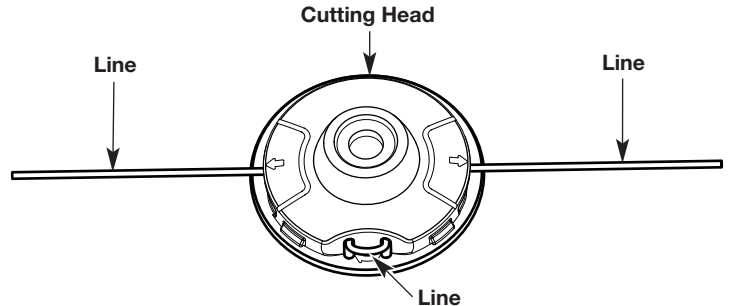

Fig. 9
4. Pull the ends of the line until the line is tight against the cutting head. Make sure the ends of the line are of equal length (Fig. 9). If one end is longer than the other, push the longer end back through the cutting head partway and pull the shorter end out. If necessary, repeat this process until both ends are of equal length.
5. Press the exposed trimming line between the circular holes until it lies flat against the cutting head (Fig. 9).